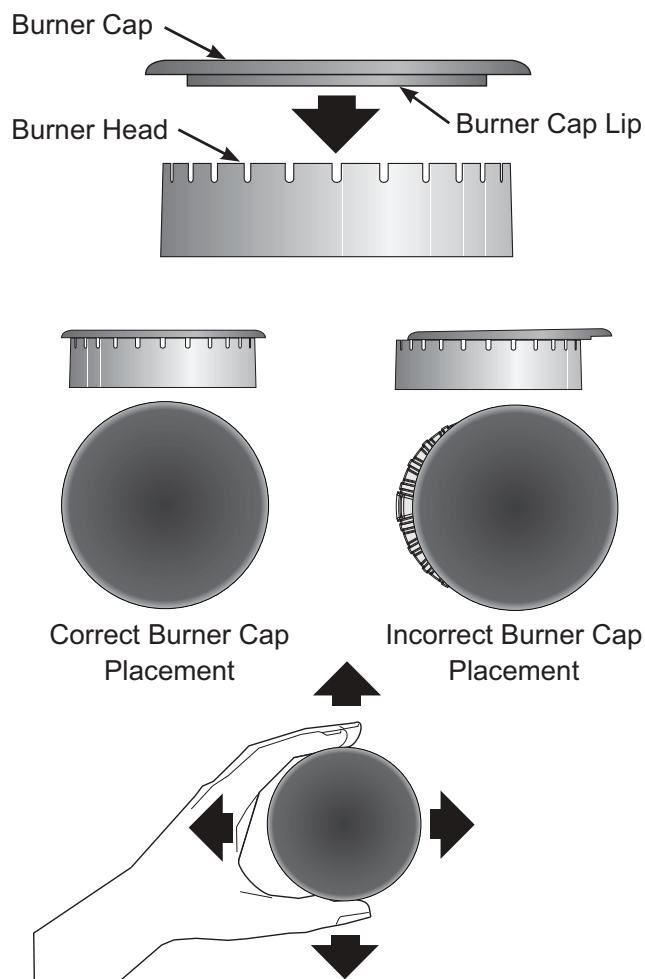

Figure 2: Placing cap properly on burner head
- Follow the instructions carefully when placing caps on burners as shown in Figure 2.